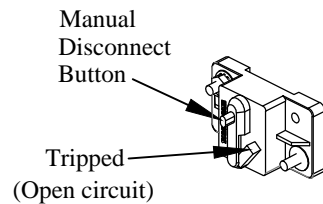

Figure 3: Manually trip circuit breaker.
3. **Disconnect** the 4 GA. power cable from the positive side of the battery (Customer Connection Point on the driver seat pedestal on Ford Transit) or manually **Trip** the circuit breaker (Figure 3).